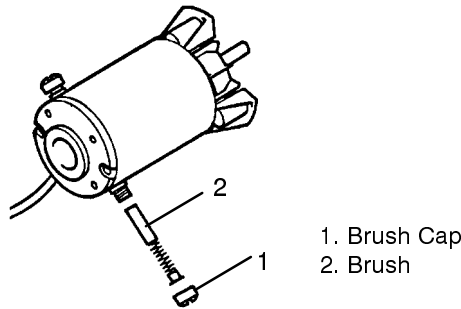

Figure 3-5. Fan Motor Brushes
- a. With unit off and battery disconnected, remove brush cap (item 1; 2 per motor). See Figure 3.5.
- b. Remove brushes (item 2; 2 per motor) and check the length of the brush. If the length is less than $\frac{1}{4}$ inch (6 mm) the brushes should be replaced (after checking collector).